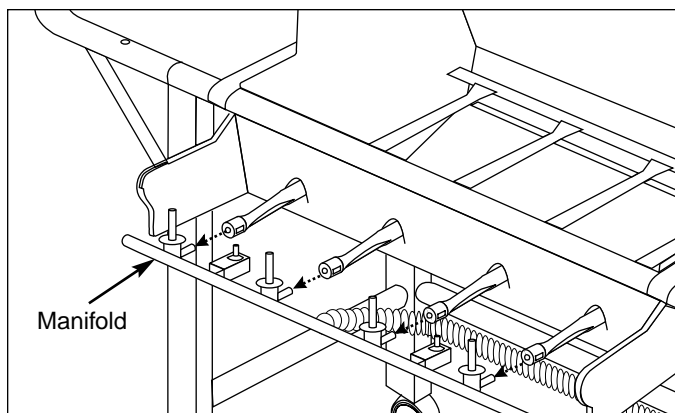

Figure 12
9. Pull the manifold out of the burners. Figure 12.